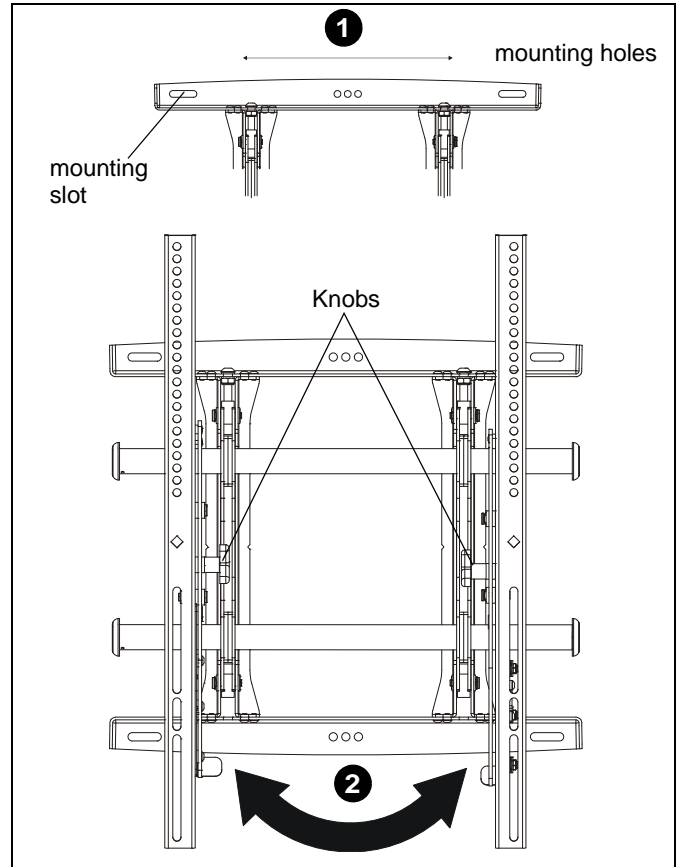

Figure 6
1. The wall bracket may be adjusted side to side at the points of attachment (mounting slots). (See Figure 6)
2. The location of the left and right upright brackets may be switched, with the knobs on the MTMPU upright brackets facing the inside of the mount. (See Figure 6)